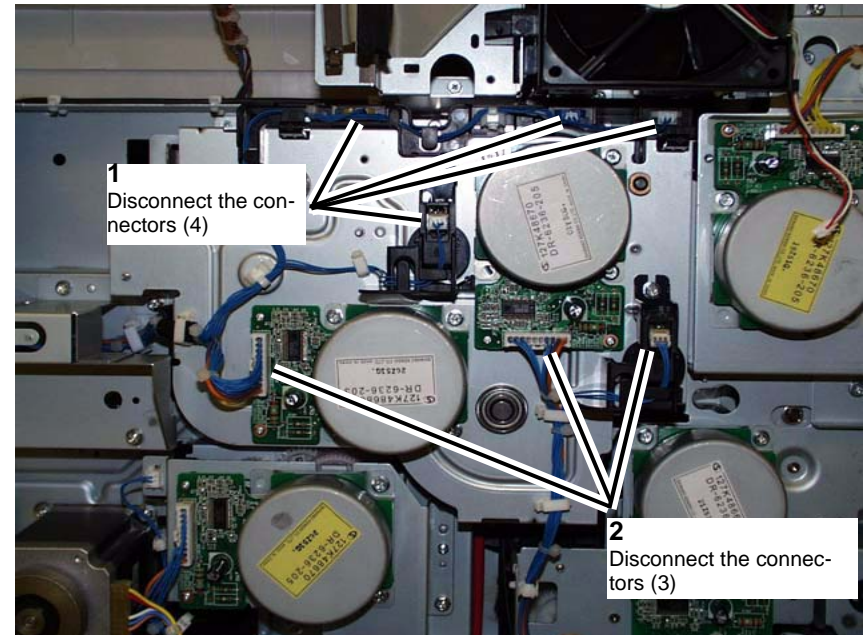

Figure 2 Disconnect the connectors (7)
6. Disconnect the connectors (7) from the Drum Drive Assembly. (Figure 2)